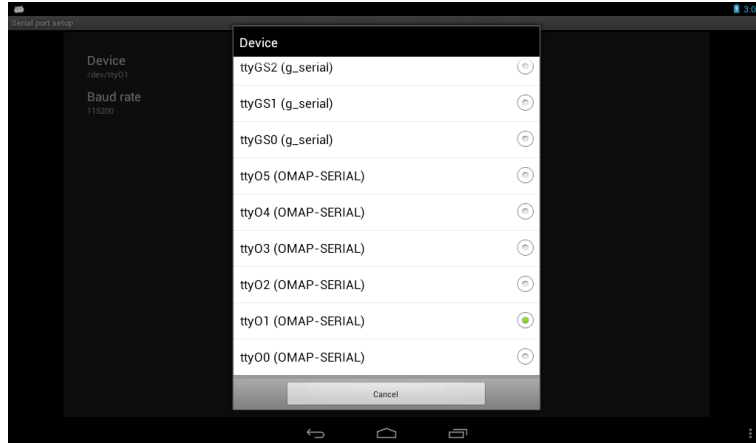

Figure 5 Serial settings
(1) Connect COM1 on board to PC. Use software “SecureCRT” or “Putty” or some others in PC. Run “Serial Port API” App to communicate with PC. Like Figure 5.